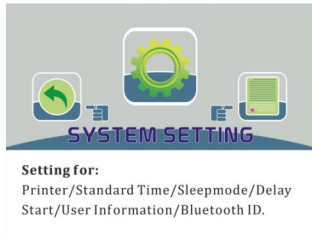
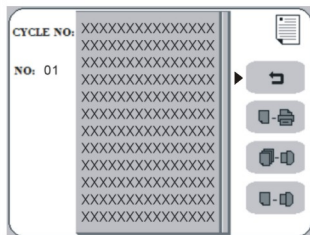

Fig.4.3-9
Fig.4.3-23
Hold on pressing “PROGRAM&SELECT” button for 3 seconds into “SYSTEM SETTING” (Fig. 4.3-9). Use “LEFT” or “RIGHT” button to turn the Fig. 4.3-10~4.3-13(“PRINT RECORD” / “MAINTENANCE” / “MACHINE INFORMATION” / “SETTING RETURN”) and click “START /STOP” button into the setting page.
4.3.2.1 “SYSTEM SETTING” :Select interface Fig.4.3-9, click “START/ STOP” button into the setting page.
Operation Steps:When the LCD screen display “SYSTEM SETTING” (Fig. 4.3-9), you click the “START / STOP” button to enter the interface “LANGUAGE SETTING” (Fig.4.3-14).Then click the “START / STOP” button into
Operation Steps:When the LCD screen display “SYSTEM SETTING” (Fig.4.3-9), you click the “START / STOP” button to enter the interface Fig.4.3-14.Then you click “RIGHT” button to the interface “STANDARD TIME SETTING” (Fig.4.3-15).then click “START/STOP” button into setting page and in front of the display “▶” mark, use “PROGRAM &SELECT” button move “▶” to item you wanted.use “LEFT” or “RIGHT” button to choose the numbers you wanted. Then click “START / STOP” to save and make arrow disappear.then click “PROGRAM&SELECT” button to exit.
Operation Steps:When the LCD screen display “SYSTEM SETTING” (Fig.4.3-9), you click the “START / STOP” button to enter the interface Fig.4.3-14.Then you click “RIGHT” button twice to the interface “PRINTER SETTING” (Fig.4.3-16).then click “START/STOP” button into setting page and in front of the display “▶” mark, use “PROGRAM &SELECTLEFT” button move “▶” to item you wanted.use “RIGHT” button to choose ON(✓) or OFF(✗) you wanted. Then click “START/STOP” button to make arrow disappear and “PROGRAM&SELECT” button to exit.
Operation Steps:When the LCD screen display “SYSTEM SETTING” (Fig.4.3-9), you click the “START / STOP” button to enter the interface Fig.4.3-14.Then you click “RIGHT” button three times to the interface “SLEEP-MODE SETTING” (Fig.4.3-17).then click “START/STOP” button into setting page and in front of the display “▶” mark, Use “PROGRAM&SELECTLEFT” button move “▶” to item you wanted.Then click “START/STOP” button to save and make arrow disappear and display “✓” in the rear.then click “PROGRAM&SELECT” button to exit.
Operation Steps:When the LCD screen display “SYSTEM SETTING” (Fig.4.3-9), you click the “START / STOP” button to enter the interface Fig.4.3-14.Then you click “RIGHT” button four times to the interface “DELAY-START SETTING” (Fig.4.3-18).then click “START/STOP” button into setting page and in front of the display “▶” mark, use “PROGRAM &SELECT” button move “▶” to item you wanted.use “LEFT” or “RIGHT” button to choose the numbers you wanted. Then click “START / STOP” to save and make arrow disappear.then click “PROGRAM&SELECT” button to exit.
Operation Steps: When the LCD screen display “SYSTEM SETTING” (Fig.4.3-9), you click the “START / STOP” button to enter the interface Fig.4.3-14. Then you click “RIGHT” button five times to the interface “After sterilization, turn off?” (Fig.4.3-19). Then click “START/STOP” button into setting page and in front of the display “▶” mark, use “PROGRAM & SELECT” button move “▶” to item you wanted. Then click “START/STOP” button to save and make arrow disappear and display “✓” in the rear. Then click “PROGRAM&SELECT” button to exit.
Operation Steps: When the LCD screen display “SYSTEM SETTING” (Fig.4.3-9), you click the “START / STOP” button to enter the interface Fig.4.3-14. Then you click “RIGHT” button six times to the interface “Password” (Fig.4.3-20).
4.3.2.2 “PRINT RECORD” :Select interface Fig.4.3-9, click “RIGHT” button into interface “PRINT RECORD” Fig.4.3-10. Then click “START/STOP” button into interface Fig.4.3-23.
See sterilization records: When LCD display Fig.4.3-23,click “PROGRAM&SELECT” button to round the page, checking the whole report. click “LEFT” or “RIGHT” button to change the number of cycle.
EXIT:If you want to back to interface Fig.4.3-23,click “PROGRAM&SELECT” button,triangular arrow will mark the return icon(↩).then click “START/STOP” button to exit.
4.3.2.3 “MAINTENANCE” :Select interface Fig.4.3-9, click “RIGHT” button twice into interface “MAINTENANCE” Fig.5.11. Then click “START/STOP” button enter interface “TEST PARAMETERS” (Fig.4.3-24) .